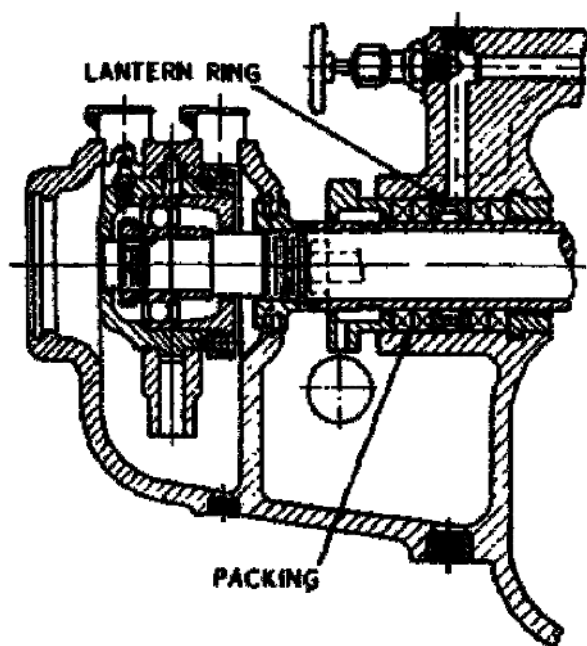

Figure 83. Cutaway of bearing and stuffing box.
2. **Stuffing Boxes.** In repacking be sure that sufficient packing is placed back of the lantern ring, shown in figure 83, so that the liquid for sealing is brought in at the lantern ring and not at the packing.